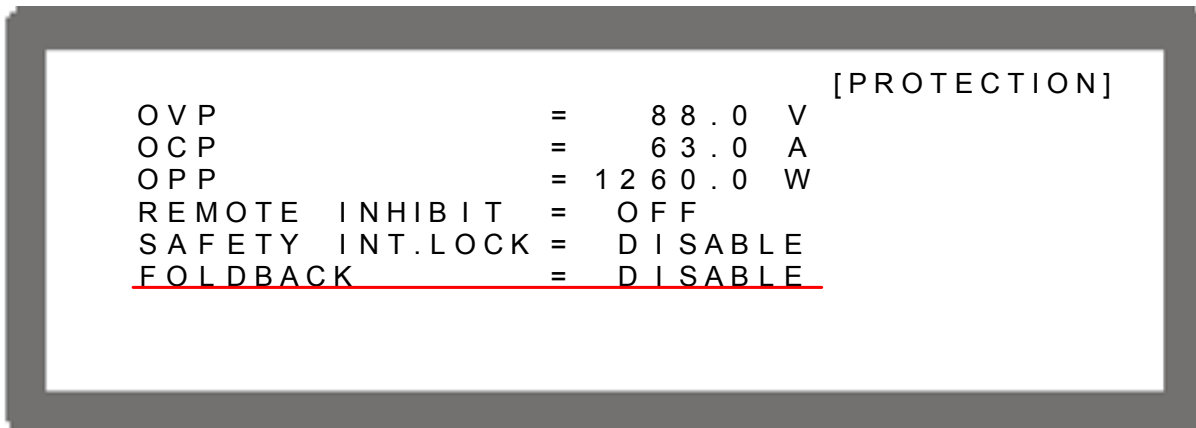

Figure 3-83
1. Use “”, “” keys to move the cursor to the column to be set as Figure 3-83 shows.